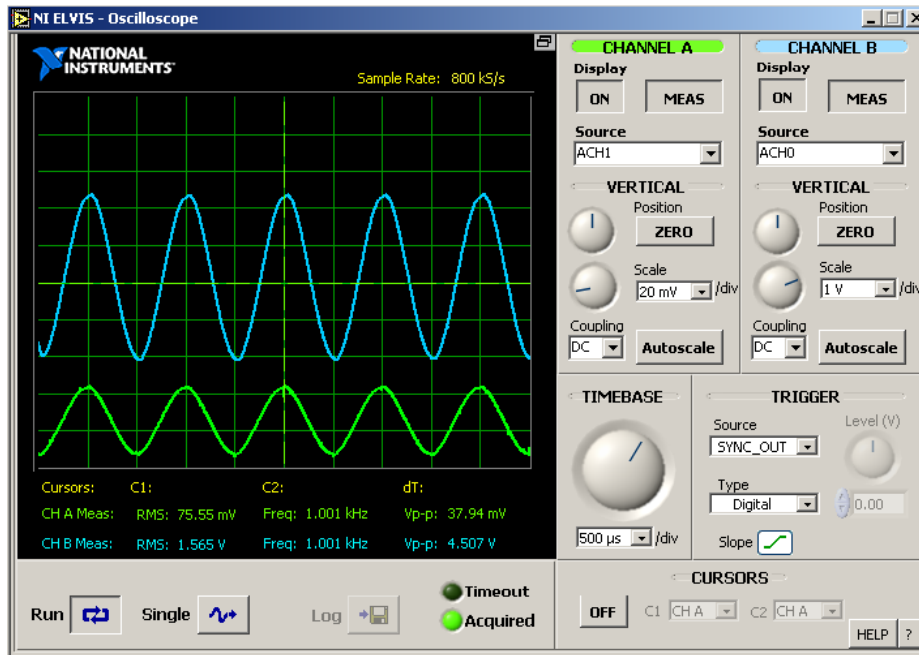

Fig. 8. Oscilloscope output with output on AIO+/AIO- trimmed to have close to zero DC offset.
5. Use the oscilloscope SFP from Elvis to observe both the input and the output on channels AI1 and AI0 respectively. Now adjust the 20k potentiometer to balance the output waveform to be around 0 V as close as possible. As the 20k potentiometer is adjusted the waveform on Channel B should move to be as close as possible to being symmetric around zero DC voltage. This is shown in Fig. 8. Now we have calibrated the DC offsets of the Opamp.